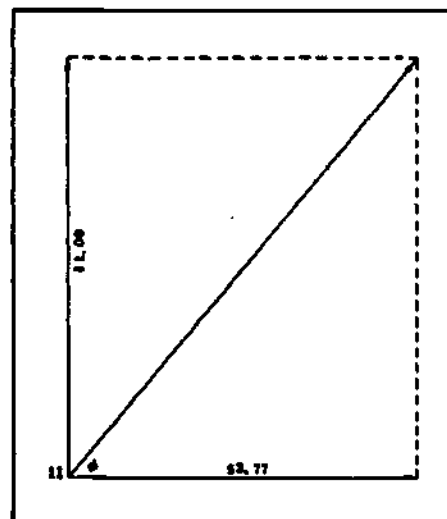

Figure 25. Graphical Addition of Vectors
(1) **Addition and Subtraction** - You have already observed how complex quantities (such as rectangular forms of vectors in Figure 25) can be added and subtracted. Since the addition of vectors by graphical means, as described before, is not satisfactory unless you use accurate instruments to construct the vectors, the usual method of combining two vectors is to convert them to rectangular form and to add them algebraically:
The graphical addition of the vectors in this example is shown in Figure 25. To convert this result to polar form, remember that